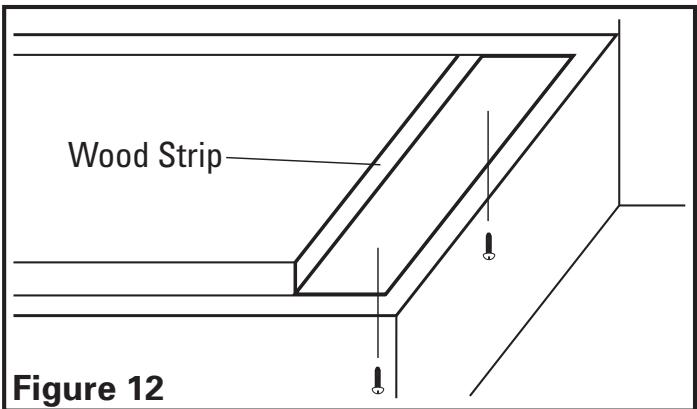

Figure 12
- If the canopy will be installed under cabinets that have a recessed bottom, it will be necessary to install wood mounting strips (not included) so the canopy will mount properly (**Figure 12**).